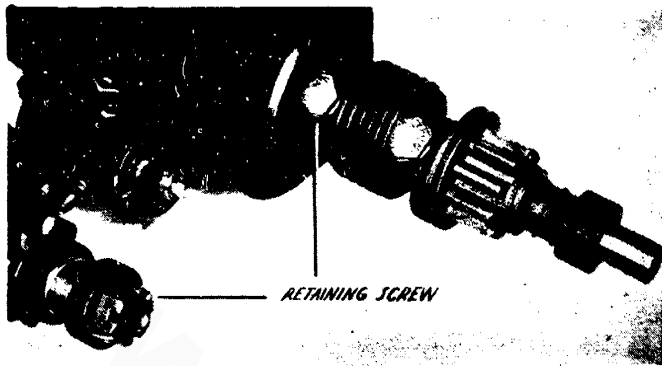

Fig. 62 Bendix Drive
(4) Press the armature out of the pinion housing.
(5) Remove the Bendix head spring screw (screw nearest armature or on end of shaft), and slide the Bendix from the shaft. See Fig. 62.
(6) Inspect all parts for wear and distortion. Replace all defective parts.
(7) Reassemble and install on engine.